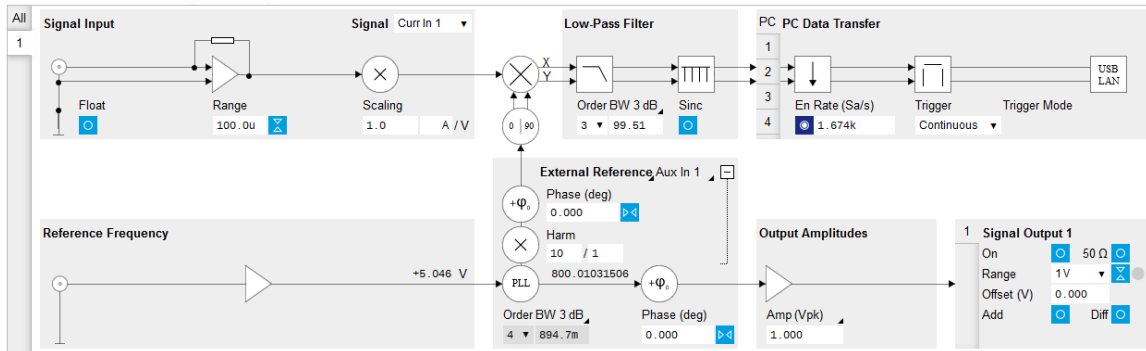

Figure 3.9. Lock-in tab set up for measurement at 800 Hz (without MF-MD option)
**Without MF-MD Multi-demodulator option:** In the Signal Input section of the graphical Lock-in tab, select Current Input 1 and change the input range to 100  $\mu$ A. In the External Reference Section, set the Harmonic (Harm) to 10 / 1. Note that this setting is hidden by default. You can get access to this setting by expanding the section with a click on the + symbol on the top right of the section. You should now observe a numerical display of the demodulator reference frequency close to 800 Hz as shown in Figure 3.9. Finally, set the Low-Pass Filter to 100 Hz (3rd order) and enable the data stream in the PC Data Transfer section.